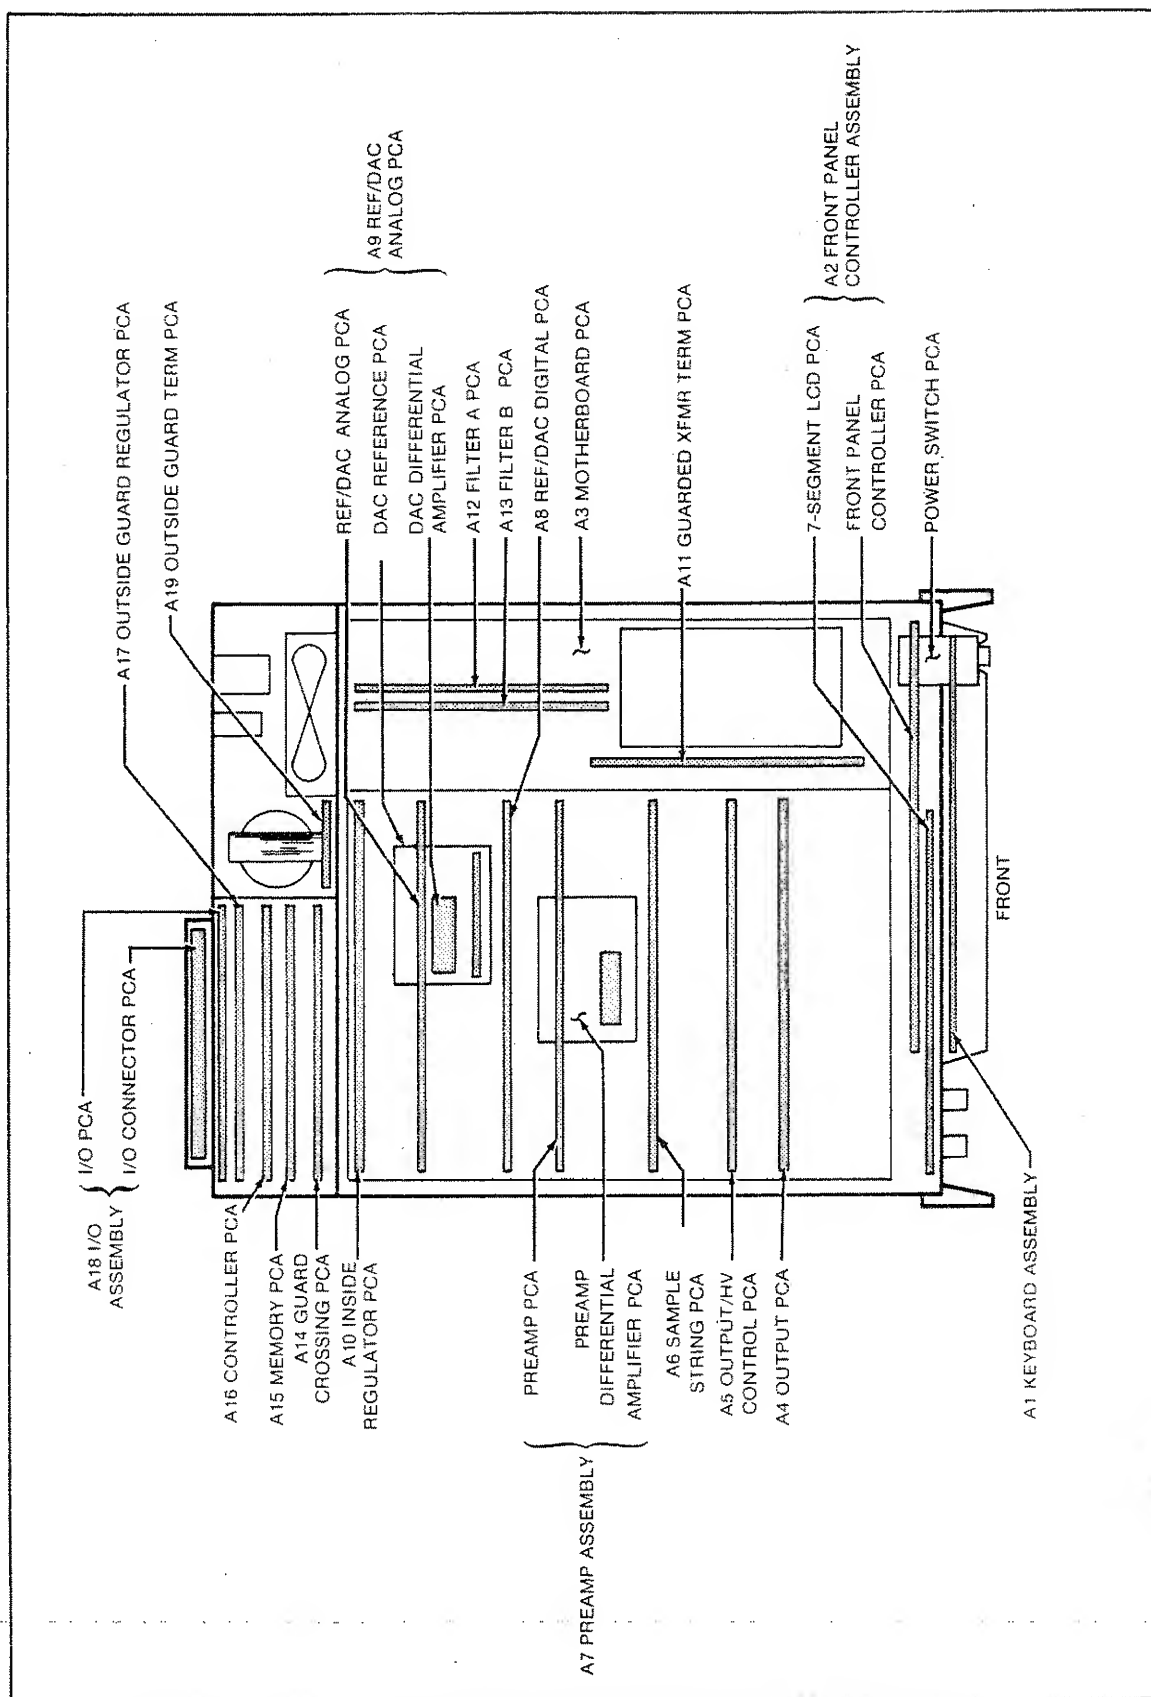

Figure 2-8. Changing from Front to Rear Terminals
4. Remove the A4 Output Printed Circuit Assembly (PCA) from motherboard connectors J9, J0, and J11, pulling the PCA by its card extractors. (See Figure 2-8.)